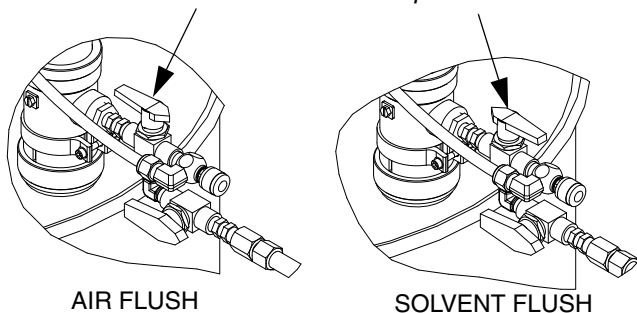

FIG. 13: Valve Positions
3. A three way valve mounted off of the solvent stick pump allows solvent or air pressure to be applied to the mixer. Independent needle valves control the output the solvent stick pump and the volume of air applied to the mixer. After solvent flushing, switch to air flush to purge lines of solvent. See FIG. 13.